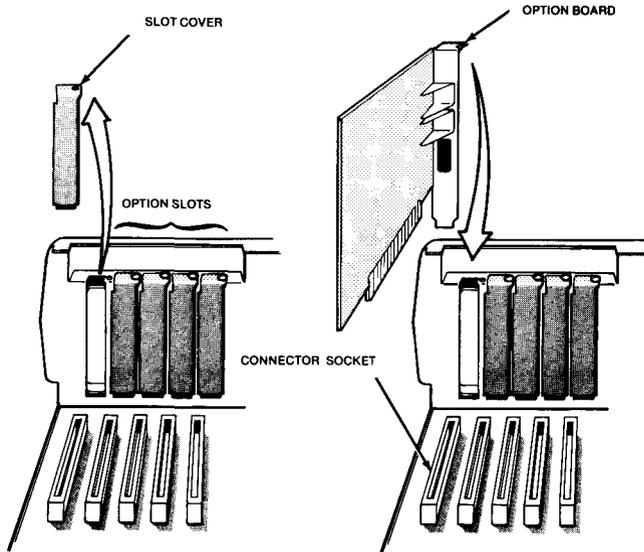

Figure 4.
11. If necessary remove the option slot cover of an unused expansion slot. Carefully insert the carrier board in the empty slot. Secure the mounting bracket of the carrier board to the chassis with the screw that held the slot cover on. See Figure 4.